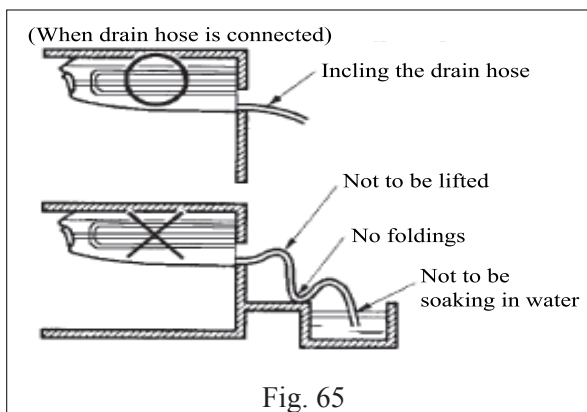

Fig. 65
- Keep the drain pipe as short as possible and incline downwards at a gradient of at least 1/100 to prevent air pockets (See Fig.65)